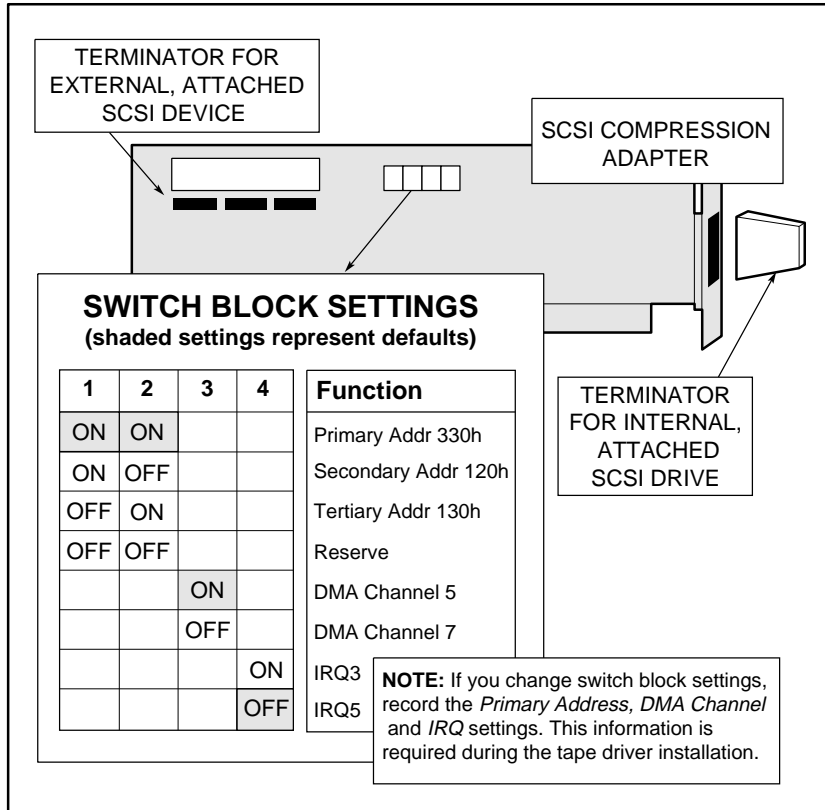
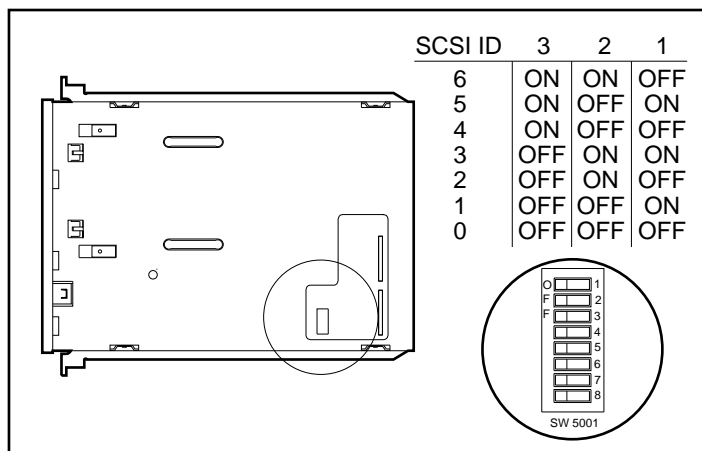

Figure A-3. Switch Settings for the SCSI Compression Adapter
Figure A-4. Switch Settings for 1.3-/2.0-Gigabyte DAT Drive
You must set the switch bank in the SCSI Compression Adapter to configure the controller. Figure A-3 illustrates the switch settings for the SCSI Compression Adapter. Figure A-4 illustrates the switch settings the SCSI ID on the 1.3-/2.0-Gigabyte DAT Drive. The default is SCSI ID=2.
1. If needed, set the appropriate switch settings on the tape drive adapter as shown in Figure A-3.
2. Set a unique SCSI ID for the tape drive as shown in Figure A-4.